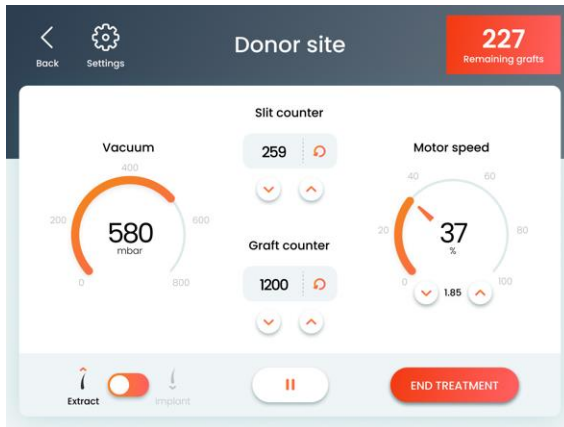

Figure 5-10. Donor Site Treatment Screen (in Start State)
- The vacuum indicator displays the vacuum level, as shown in Figure 5-10.